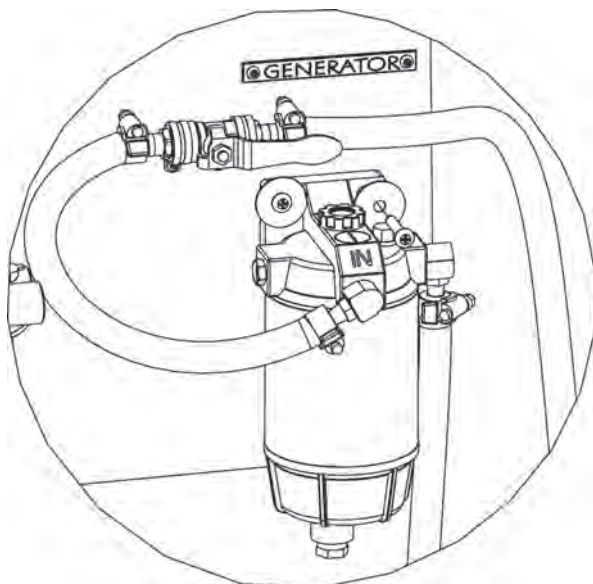

Figure H26: Generator Fuel Valve
- Open the fuel valve for the generator located in the engine compartment. See Figure H26.